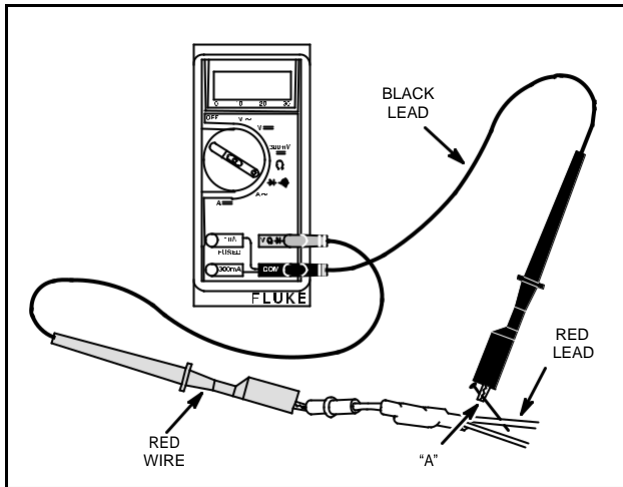

Fig. 769 – DIODE TESTING – CHARGING CIRCUIT
4. Attach BLACK test lead clip to point "A," Fig. 769. (It may be necessary to pierce wire with a pin as shown.)